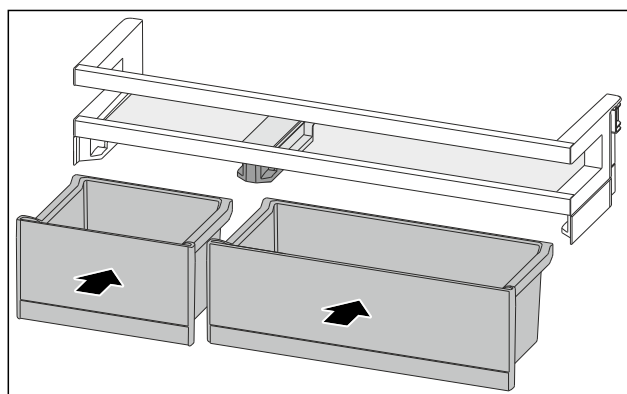

Fig. 90
- ▶ Insert the VarioBoxes in reverse order. (see Fig. 90)